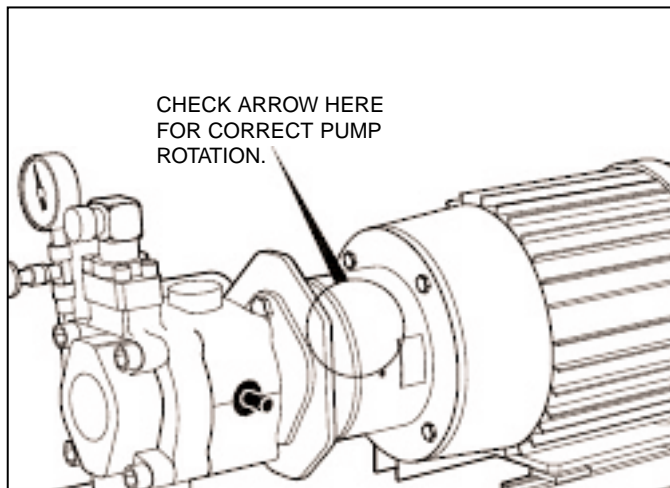

Figure 3.24 PUMP ROTATION.
2. Check pump rotation, as shown in figure 3.24, by pushing starter in panel .